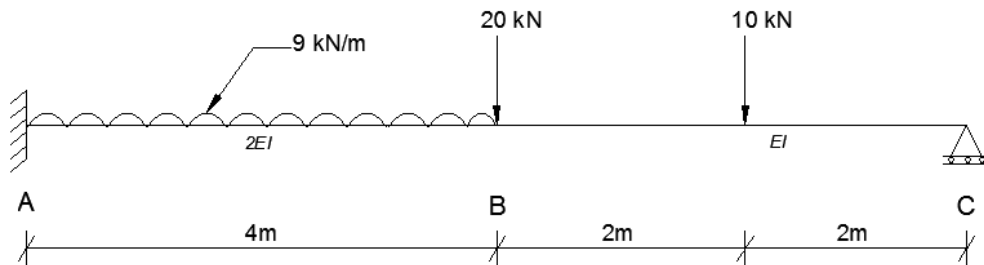

Figure 4.
9. For the beam shown in **figure 4**, use the flexibility method to to: 14M
10. For the beam shown in **figure 4**, use the stiffness method to to: 14M